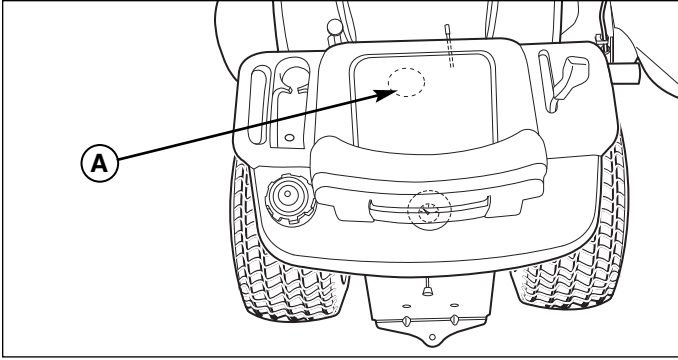

Figure 32. Seat Deck Access Plug
1. Slide the seat assembly back to access the plastic plug in the top of the seat deck (see Figure 32). Remove the plug.